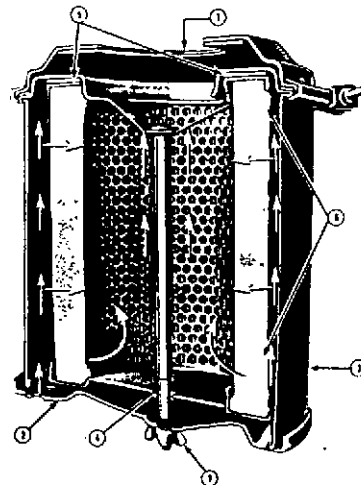

Fig. 5-17, N11003. Air cleaner — dry type
The paper element in a dry-type air cleaner, Fig. 5-17, may be cleaned several times by using an air jet to blow off dirt or by washing with non-sudsing household detergent and warm water, preferably 120/140 deg F [48.9/60.0 deg C], then drying with compressed air, approximately 40 psi
1. Loosen wing nut (1, Fig. 5-17) securing bottom cover (2) to cleaner housing (3). Remove cover.
2. Pull element (6) down from center bolt (4).
3. Remove gasket (5) from outlet end (7) of housing.